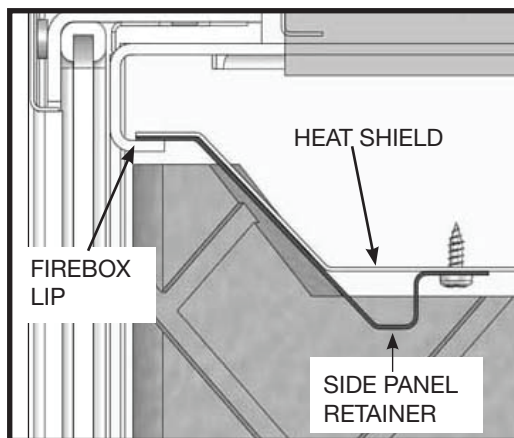

Figure 58: TC36D Side panel retainer.
1. Remove the Side Panel Retainer located on the underside of the firebox heat shield. The retainer slips between the lip of the firebox and the heat shield and is retained in place by two screws (Figure 58 and Figure 59).